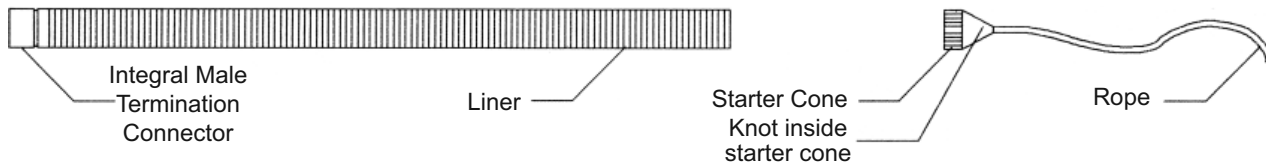

FIG. 1
- Step 6. Use a rope that is at least 12" (30.48 cm) longer than the overall length of the liner and feed one end thru the hole in the pointed end of the starter cone. Pull enough of the rope into the cone to be able to tie a knot that will not slip back thru. Then attach the starter cone to end of the liner (see FIG. 1) using either self tapping sheet metal screws or wrap the seam with duct tape.
- Step 7. Now that the "FLEXJET" liner has been stretched to length and the starter cone has been attached it is ready to be installed, usually by two (2) people, one person should be stationed on the roof at the chimney and the other at the bottom of the chimney, at the outlet end.